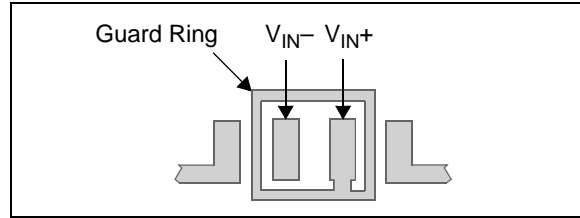

FIGURE 4-5: Example guard ring layout.
The easiest way to reduce surface leakage is to use a guard ring around sensitive pins (or traces). The guard ring is biased at the same voltage as the sensitive pin. Figure 4-5 shows an example of this type of layout.
1. Inverting Amplifiers (Figure 4-5) and Transimpedance Gain Amplifiers (convert current to voltage, such as photo detectors).